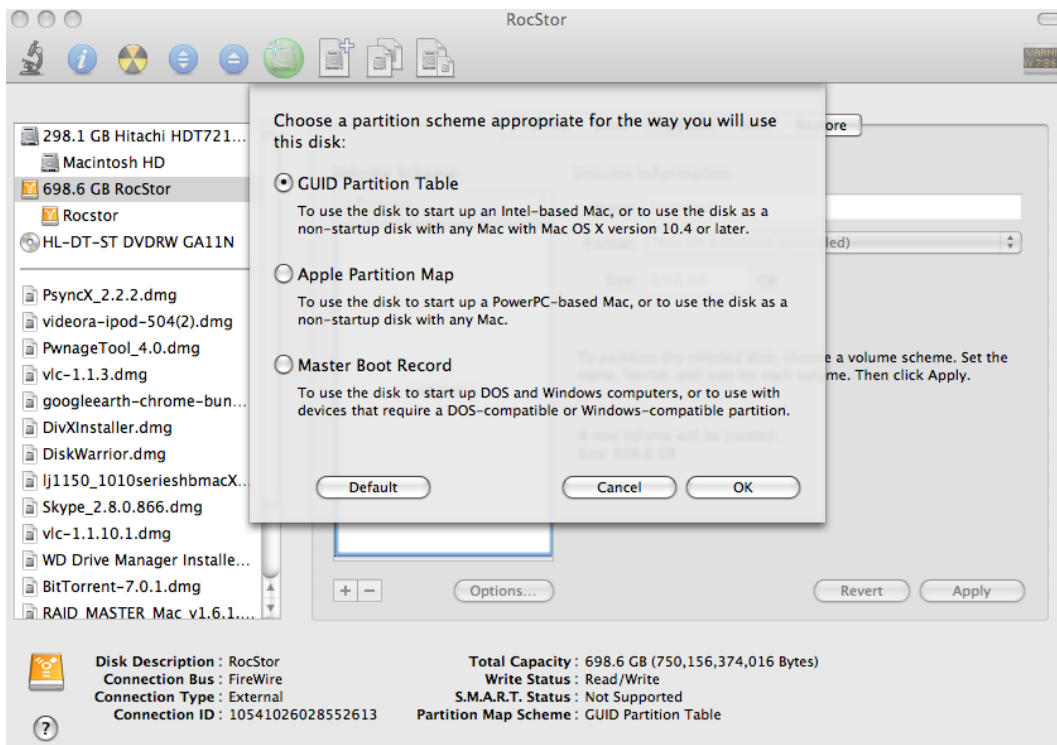

Figure 6.0
11. If you are using Tiger, Leopard, Snow Leopard or Lion click on Options on the lower center of the window. Select the Partition Scheme for your Rocstor drive. Suggest you select **“Apple Partition Map”** for Tiger, Leopard, Snow Leopard and GUID partition table for Lion, (figure 6.0) and then click OK.